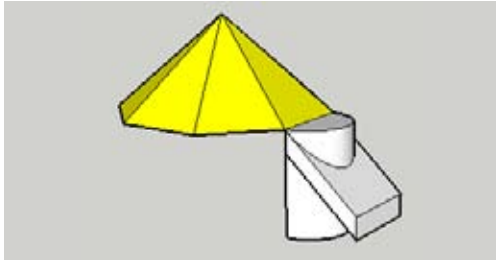

Figure 5-83
10. Pull the arc down to create a vertical half-cylinder. Then select everything, right-click on a selected face, and choose Intersect→Intersect with Model. This produces intersection edges where the flap meets the half-cylinder (Figure 5-83).